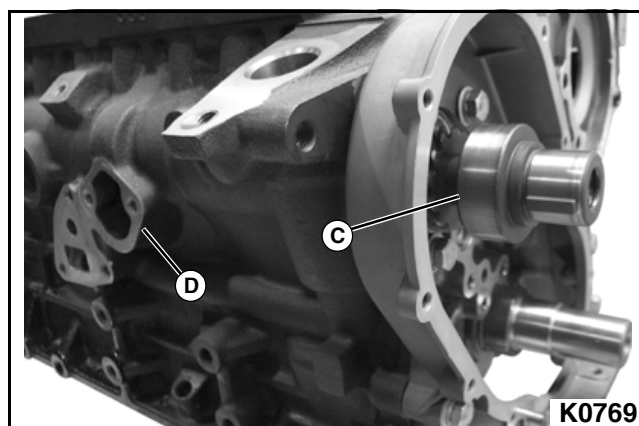

Figure 3-166
2. Guide camshaft (C) from cylinder block through front of engine, also using mechanical fuel pump provision (D) on the side of cylinder block to prevent damage to camshaft or camshaft bearings. **See Figure 3-166.**